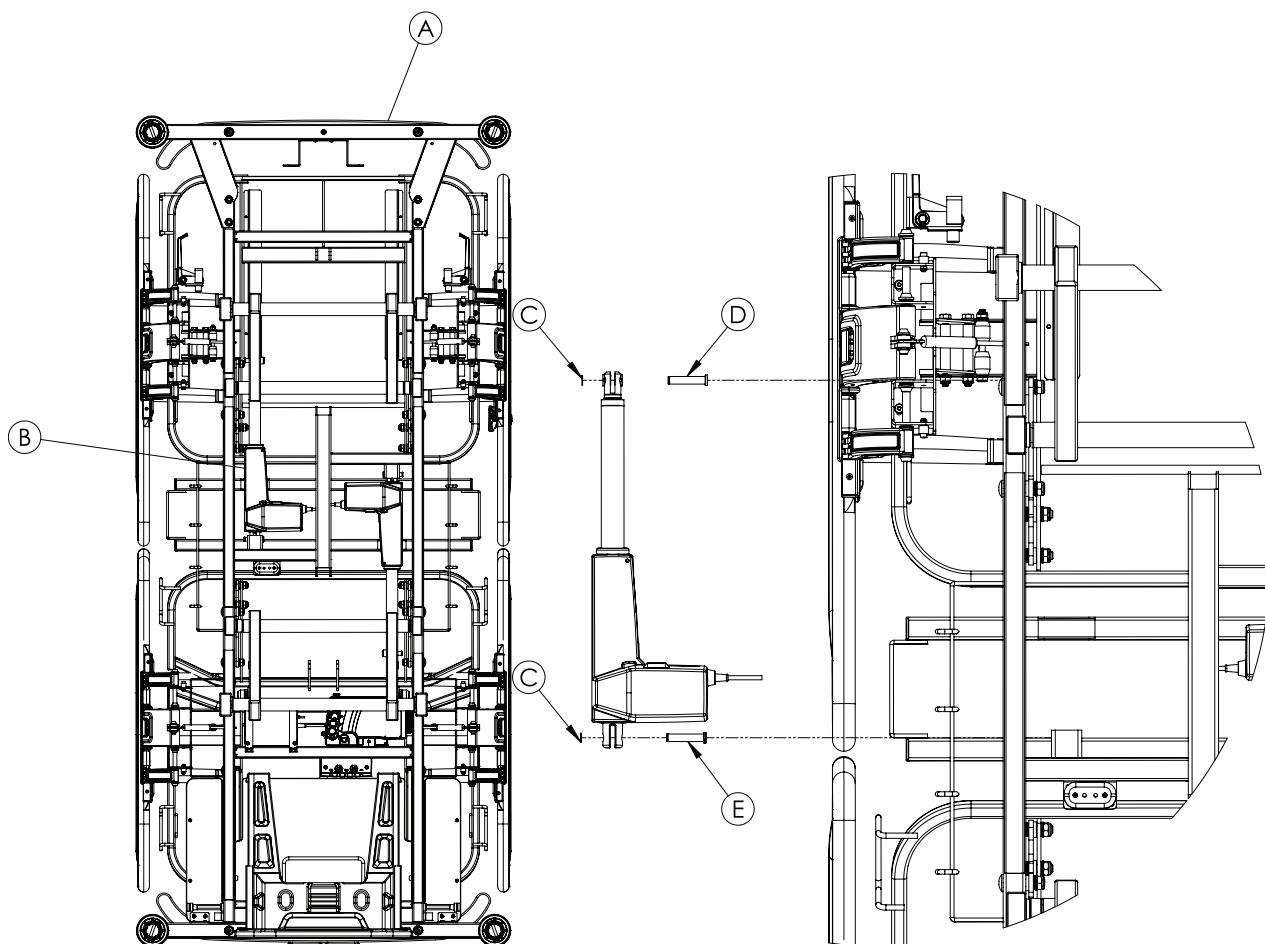

Figure 4: Head end lift actuator
2. Support the head end litter cross brace (A) to support the head end litter (Figure 4 on page 50).
8. Using snap ring pliers, remove and discard the retaining ring (C) on each clevis pin (Figure 4 on page 50).
9. Using one hand, support the head end lift actuator and remove the head end clevis pin (D) then allow the head end lift actuator (B) to pivot down (Figure 4 on page 50).
10. Using one hand, support the head end lift actuator and remove the foot end clevis pin (E) (Figure 4 on page 50).